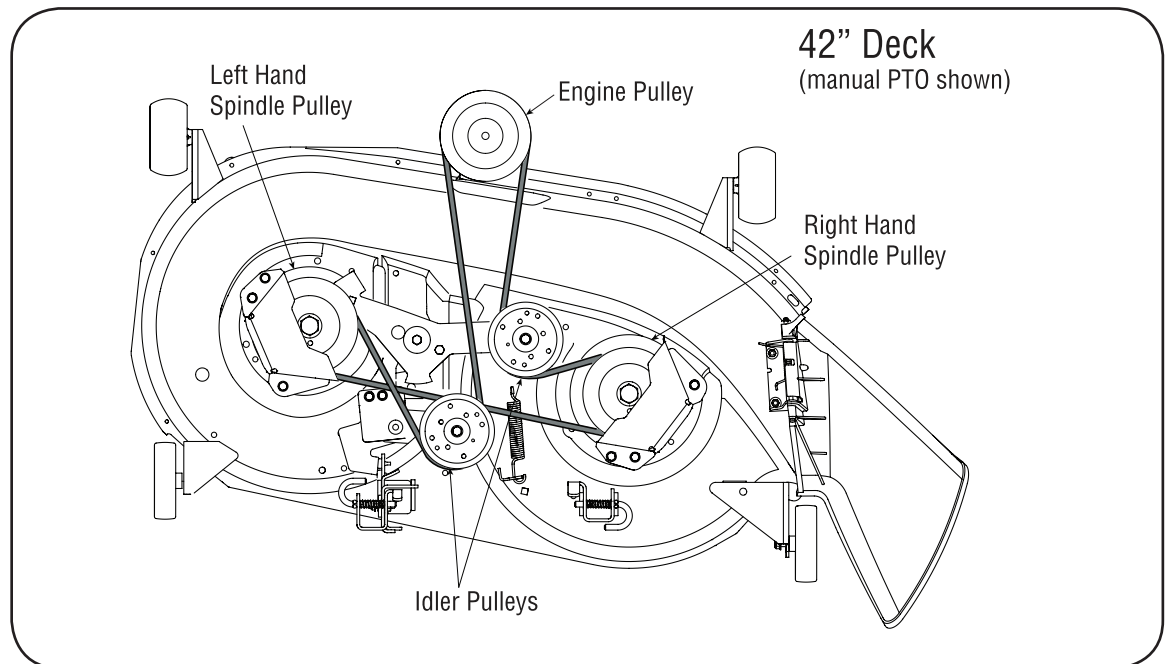

Figure 6-7
6. Route the new belt as shown in Fig. 6-7, 6-8, and 6-9 and retighten the deck idler pulleys.